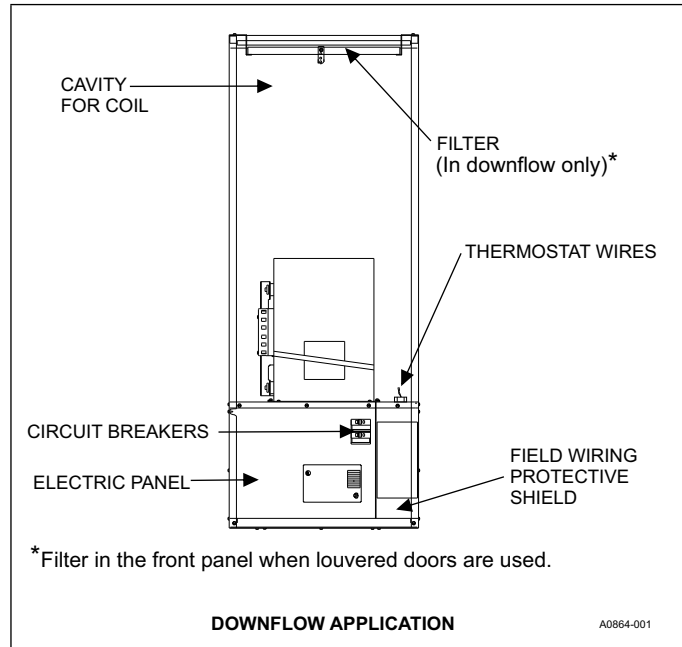

Figure 1: EBE downflow component locations
4. Slide the blower out from the front of the furnace. See Figure 1 or 2.
Your electric furnace is equipped with a unique safety feature: circuit breakers. These circuit breakers are located behind the door of the furnace near the bottom of the furnace. See Figure 1. If a component fails inside the furnace, the circuit breakers prevent damage that can be caused by an electrical short.
**Filter location:** For the downflow furnace, you must remove the front panel of the furnace to gain access to the filter. See Figure 1. For the upflow furnace, the filter is located behind the return air grill, adjacent to the furnace closet or any other location in the return air.